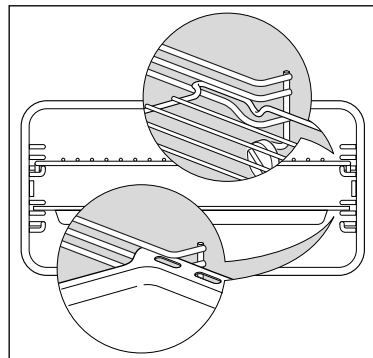

Fig. 33 Correct position of shelves and pan
- Put in the shelf and tray. Make sure you fit the shelf so that the safety notch, which stops it sliding out, faces down (Fig. 33).